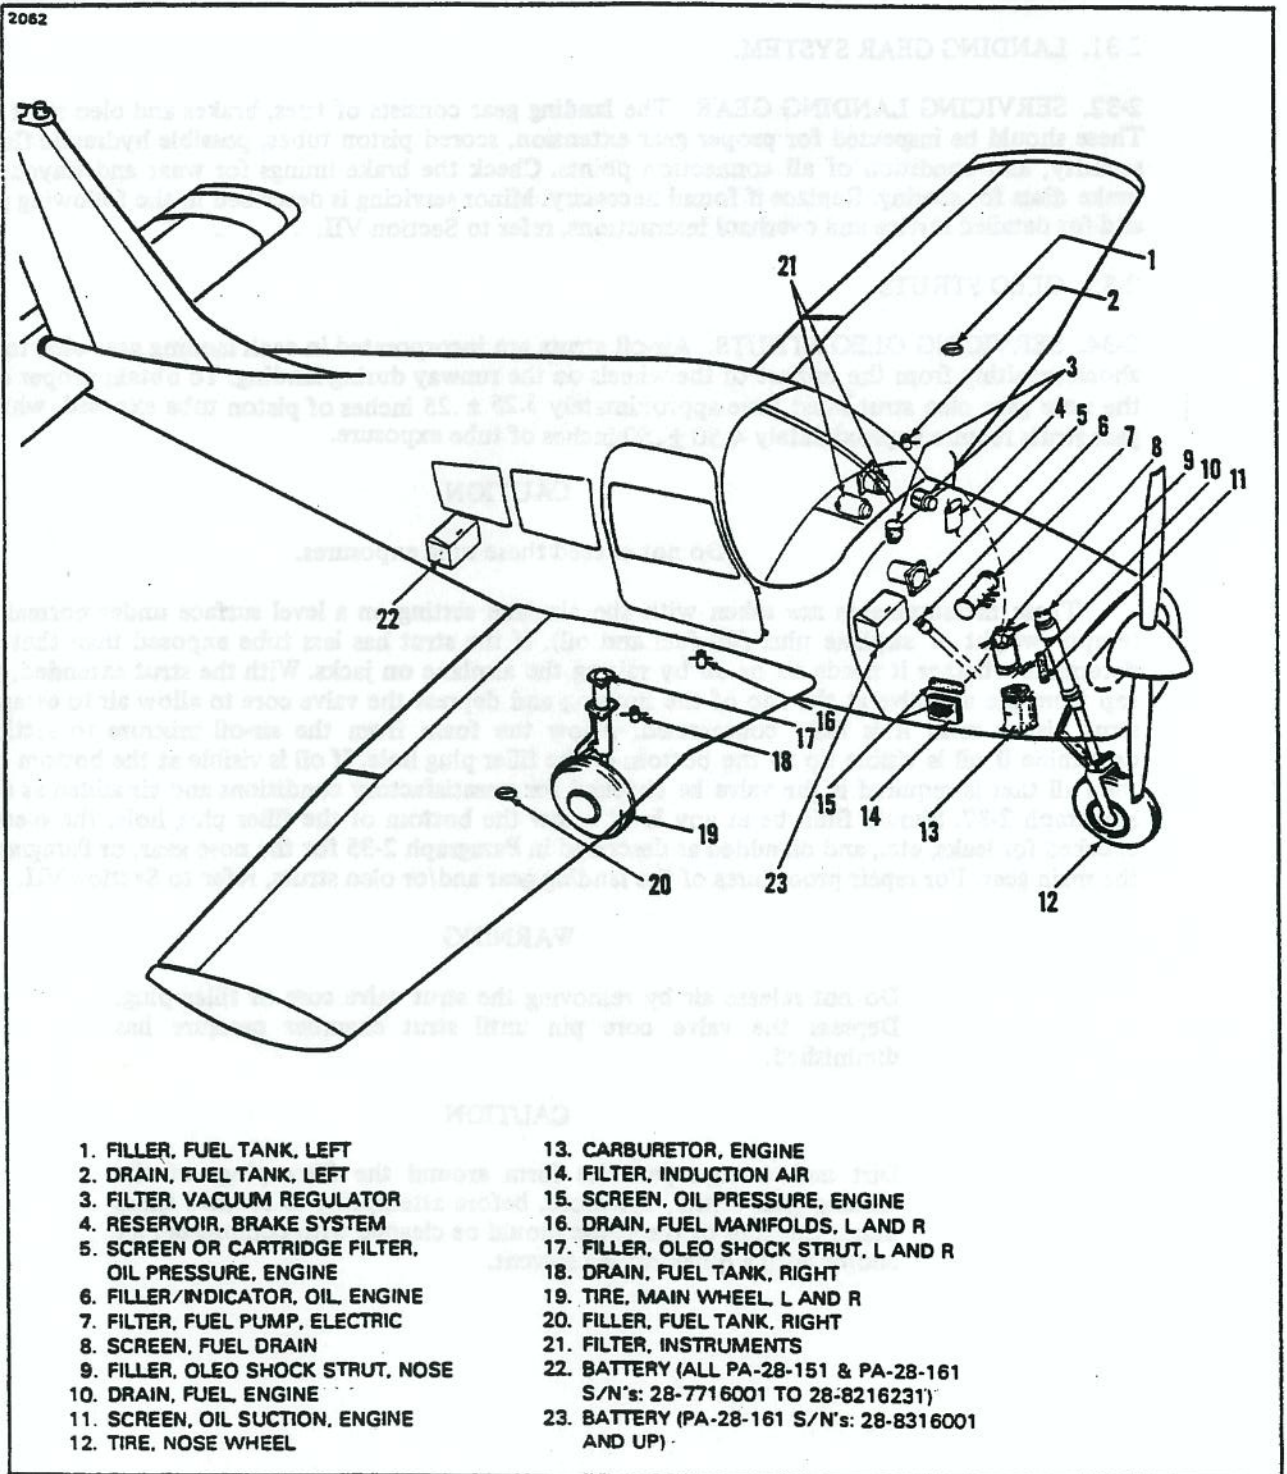

Figure 2-8. Servicing Points
**2-30. INTRODUCTION TO SERVICING.** (Refer to Figure 2-8.) Servicing the airplane includes the replenishment of fuel, oil, hydraulic brake fluid, tire pressures, lubrication requirements and other required items.